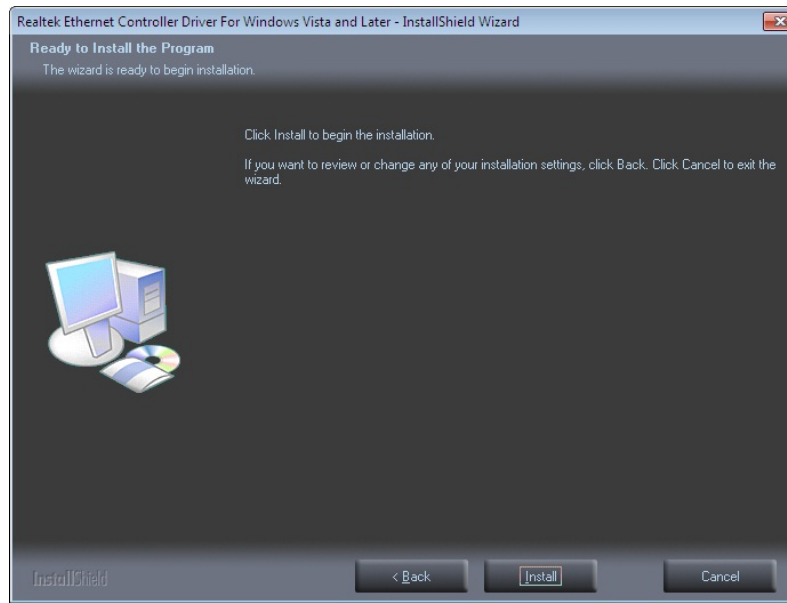

Figure 6-14: LAN Driver Installation
Step 8: The **Ready to Install the Program** screen in **Figure 6-14** appears.